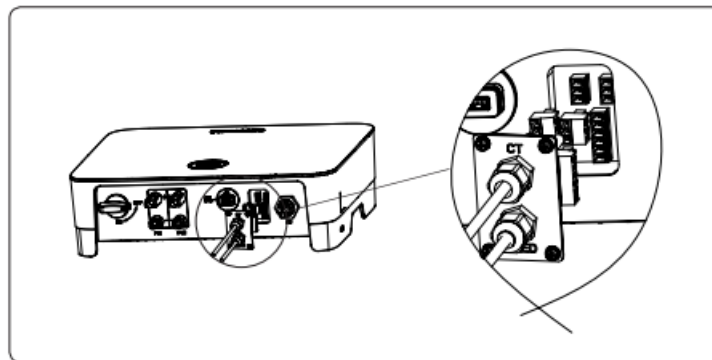

Figure 4-24
- Insert the 3/6pin connector into the 3/6pin connector inside the inverter, and screw the CT/DRED plate back with a cross screwdriver, as shown in Figure 4-24: